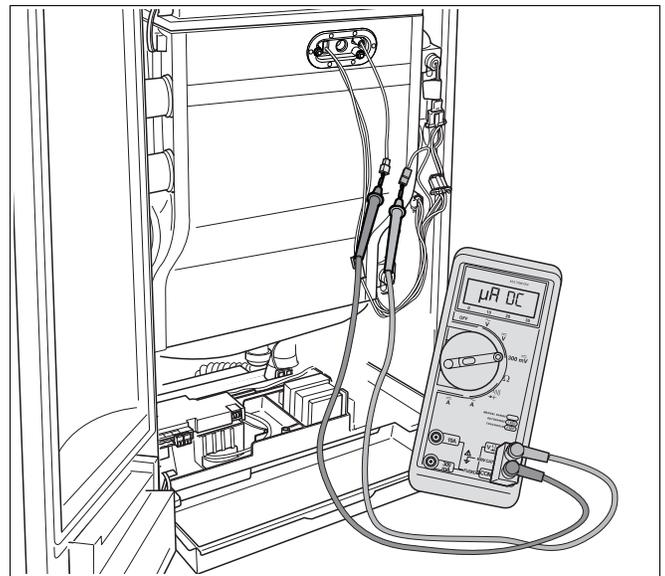

Fig. 68 Measuring the ionization current
- Connect the multimeter in series (fig. 68). Select the  $\mu\text{A}$  DC range on the multimeter. The multimeter must have a resolution of at least  $1 \mu\text{A}$ .